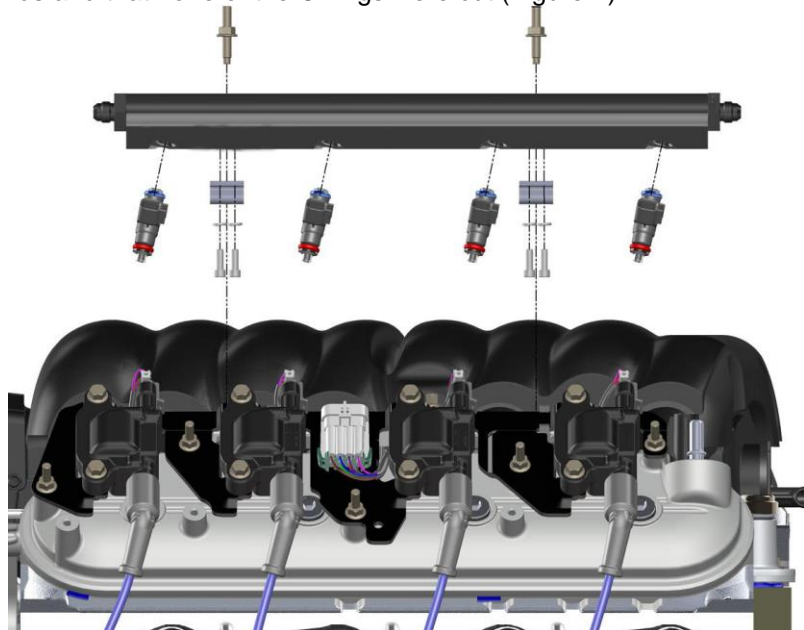

Figure 4
15. Install each of the fuel rail/injector assemblies onto the intake manifold. Make certain each of the O-rings is seated at both ends and that none of the O-rings were cut (Figure 4).